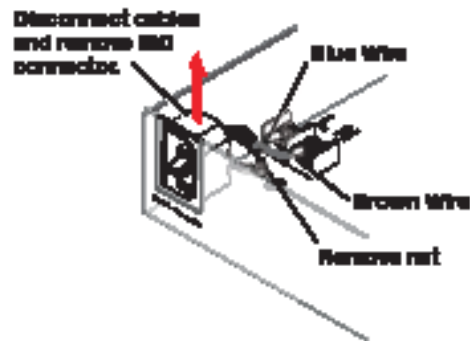

Figure 7. Removing the IEC Connector
3. Remove the two screws holding the blue hot line and the brown neutral wires from the terminal block on the PCB. Put the screws to the side to be used later (see figure 7).
4. Remove the ground wire nut from the grounding stud located on the bottom of the enclosure as shown in figure 7, below. Place the nut with the other screws to be used later.
5. Remove the wires attached to the IEC connector from the body of the amplifier, and slide the IEC connector and wire up and out of the amplifier's enclosure (see figure 7).